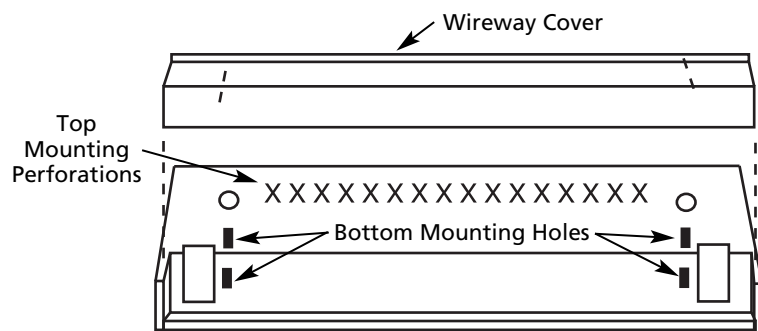

Figure 5
10. When mounting heater, if bottom mounting holes are used (see Figure 5), make sure screws do not damage supply wiring in the area behind heater.
- b. To gain access to wireway, lay heater face down and remove two screws as shown in Figure 5. Remove the knockouts in the channel areas of both terminal boxes.
6. Position heater to wall (use cross stamped perforations as a guide, see Figure 5) and secure through the top row of predrilled mounting holes using at least two fasteners, one at each end of the heater. If the unit is mounted above the floor to allow carpet installation under the heater, two additional mounting holes are supplied at each end below the